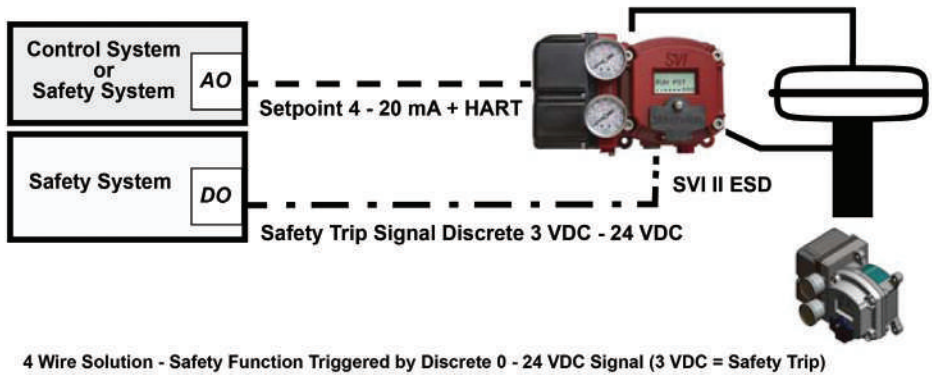

Figure 14 - Analog with Discrete Safety Demand (A/DSD) Configuration
The Analog with Discrete Demand configuration is: 4 - 20 mA power input with superimposed HART® communications for control system and 24 VDC 2 wire for Safety System (Figure 14).
1. Loosen the four (4) cover screws and remove the cover of the SVI II ESD.
2. Connect the +/- terminals of the current source to the 4 - 20mA IN connector (on the terminal board). The current source + must connect to the terminal board connector +, and the same for -. See Figure 14 on page 38.